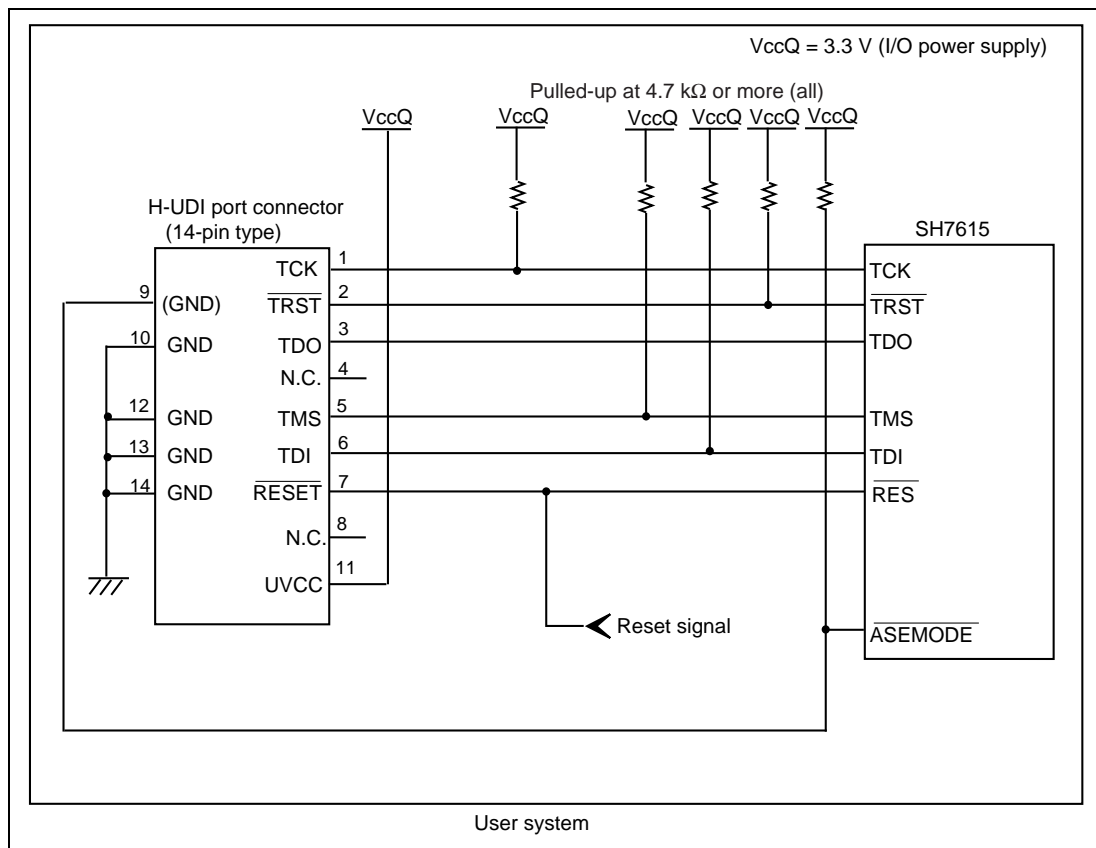
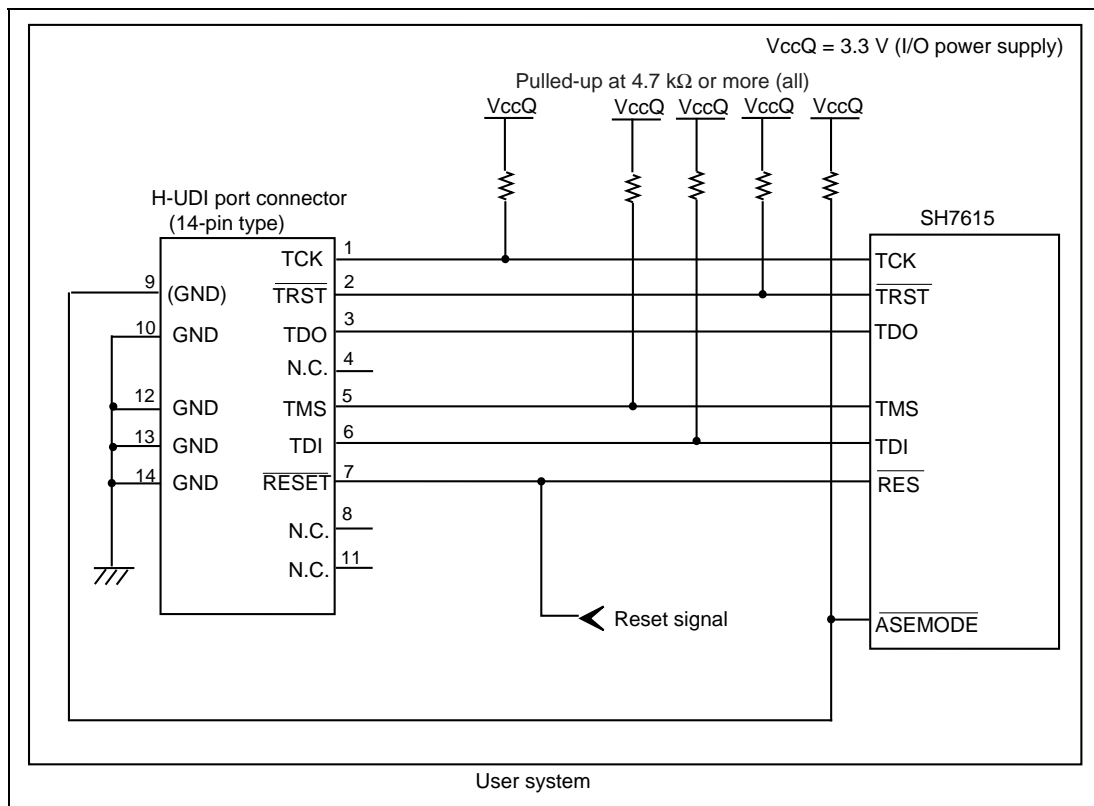

Figure 1.2 Recommended Circuit for Connection between the H-UDI Port Connector and MPU when the Emulator is in Use (14-Pin Type UVCC Connected)
Figure 1.3 Circuit for Connection between the H-UDI Port Connector and MPU when the Emulator is in Use (14-Pin Type UVCC Not Connected*)
Figure 1.2 shows a recommended circuit for connection between the H-UDI and AUD port connectors (14 pins) and the MPU when the emulator is in use. Figure 1.3 shows a circuit for connection when UVCC is not connected.
- (1) When the emulator is used: /ASEMODE = 0 (ASE mode)
- (2) When the emulator is not used: /ASEMODE = 1 (normal mode)Figures 1.2 and 1.3 show examples of circuits that allow the /ASEMODE pin to be GND (0) whenever the emulator is connected by using the user system interface cable. When the /ASEMODE pin is changed by switches, etc., ground pin 9. Do not connect this pin to the /ASEMODE pin.
5. When the power supply of the user system is turned off, supplying VccQ of the user system to the UVCC pin reduces the leakage current from the emulator to the user system. A level shifter that is activated by the internal power supply or user power supply (changed by the switch) is installed in the interface circuit of the emulator. If the user power is supplied to the UVCC pin, the level shifter is not activated as long as no user power is supplied. When the power supply of the user system is turned off, no current flows from the user interface. The I/O voltage level of the user system interface can be the same as that of the VccQ. To operate the emulator with low voltage (lower than 3.3 V), the VccQ must be supplied to the UVCC pin. Make the emulator's switch settings so that the VccQ will be supplied (SW2 = 1 and SW3 = 1) (as shown in figure 1.2).
6. The resistance values shown in figures 1.2 and 1.3 are recommended.
When the circuit is connected as shown in figure 1.2, the switches of the emulator are set as SW2 = 1 and SW3 = 1. For details, refer to section 3.8, Setting the DIP Switches, in the Debugger Part of the SuperH™ Family E10A-USB Emulator User's Manual.
When the circuit is connected as shown in figure 1.3, the switches of the emulator are set as SW2 = 0 and SW3 = 1. For details, refer to section 3.8, Setting the DIP Switches, in the Debugger Part of the SuperH™ Family E10A-USB Emulator User's Manual.